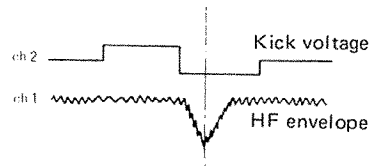

Fig. 31-1
- (6) Press the fast forward button and adjust VR305 again so that the HF envelope waveform becomes symmetrical. (Fig. 31-1)